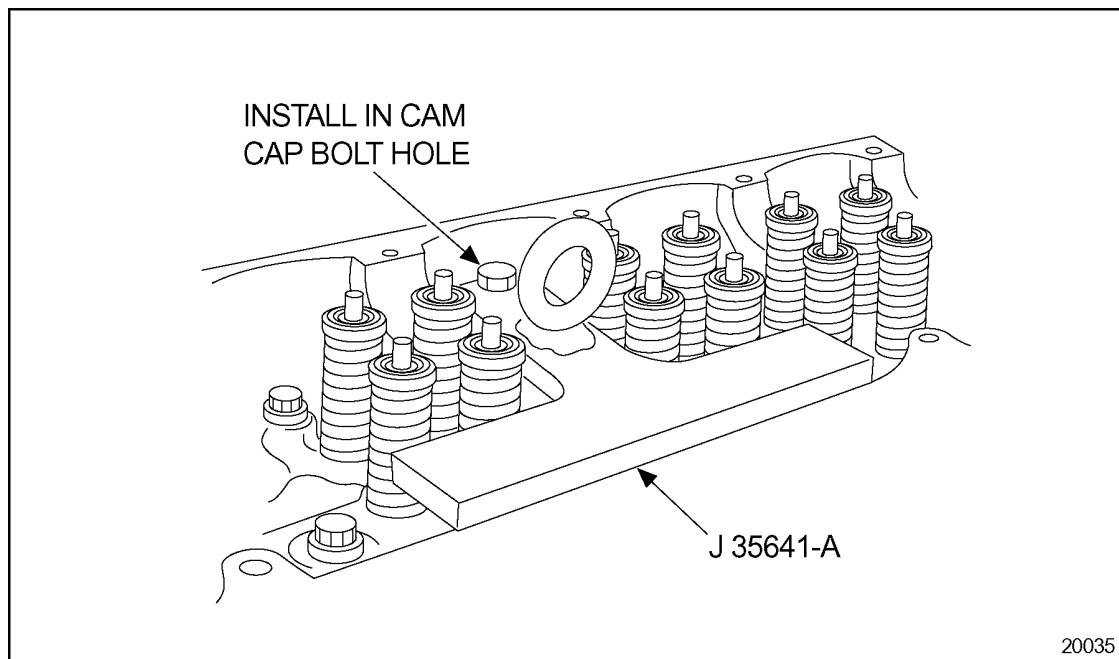

Figure 1-33 **Cylinder Head Lift Bracket Installation**
24. Remove the head bolts and install the cylinder head lift bracket, J 35641-A, using the bolt hole at the inboard center, No. 3 cam cap and two tapped Jacob's Brake bolt holes. See Figure 1-33.